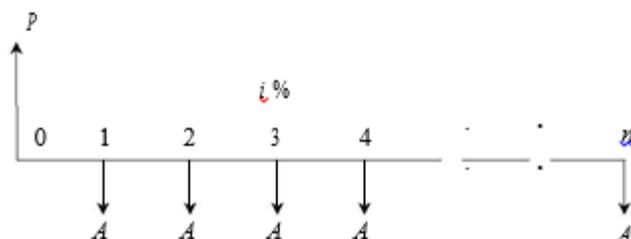

Fig. 3.10 Cash flow diagram of equal-payment series capital recovery amount.
The objective of this mode of investment is to find the annual equivalent amount (A) which is to be recovered at the end of every interest period for n interest periods for a loan (P) which is sanctioned now at an interest rate of i compounded at the end of every interest period (see Fig. 3.10).
In Fig. 3.10,